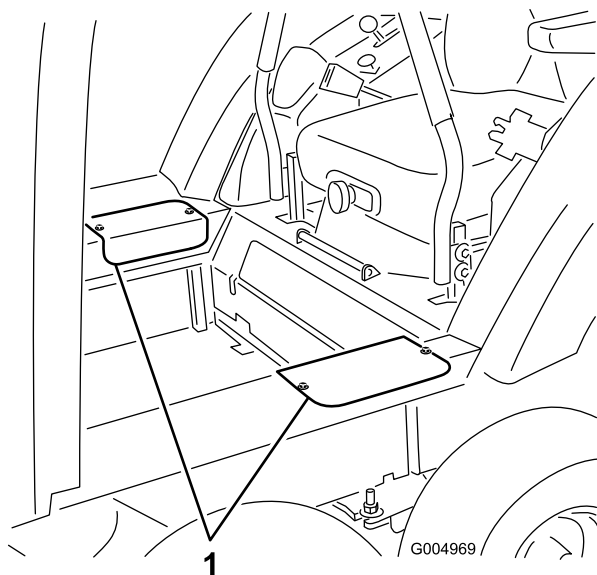

Figure 75
6. Remove the two screws securing each side access cover and remove the covers (Figure 75).